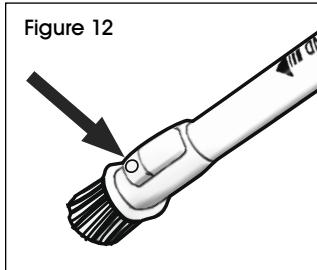

Figure 12
- To engage the dusting brush, press the dark gray button and slide the brush over the crevice tool until it locks. Reverse the process for storage. (See Figure 12)